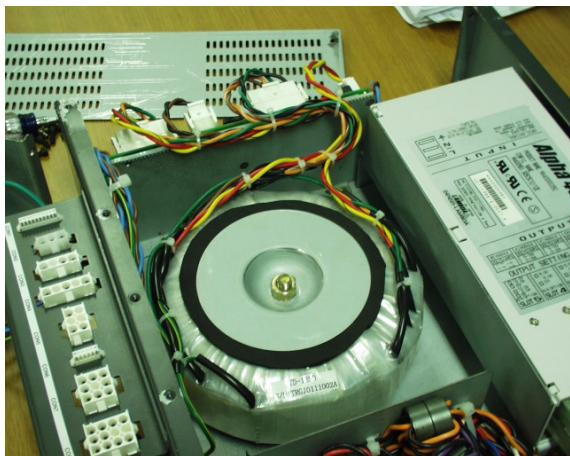

Figure 8-181 Removing the Transformer
- 7.) Unscrew one nut in the Center top of the Transformer. Refer to Figure 8-181.